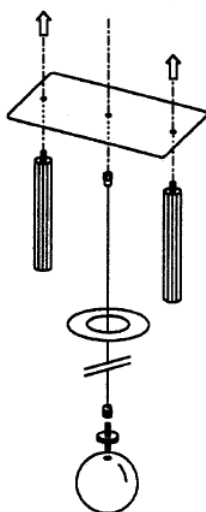

Fig. 10
- The fastening screws for the string and the ring plate must be checked to ensure that they are secure. Measurements can be inaccurate, if the string fastening is not tight (Fig. 10).